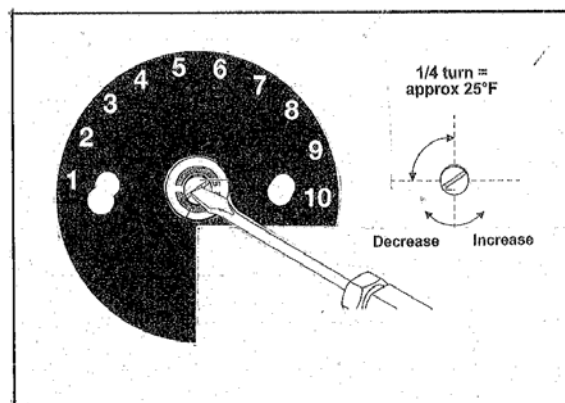

Fig. 16
3. Using a small screw driver, turn the screw in the center of the thermostat stem: **"clockwise to Decrease"** temperature or **"counter-clockwise to Increase"** temperature. (Fig. 16)